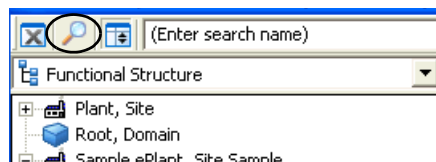

Figure 97. Find Tool Icon
1. Click on the Find Tool icon in the Plant Explorer, see Figure 97.